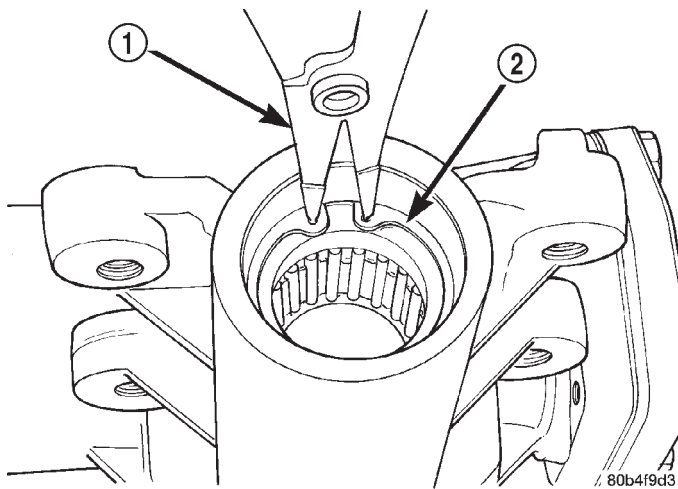

Fig. 25 Oil Seal Retaining Ring
(13) Remove pitman shaft oil seal retaining ring from the housing with snap ring pliers (Fig. 25).